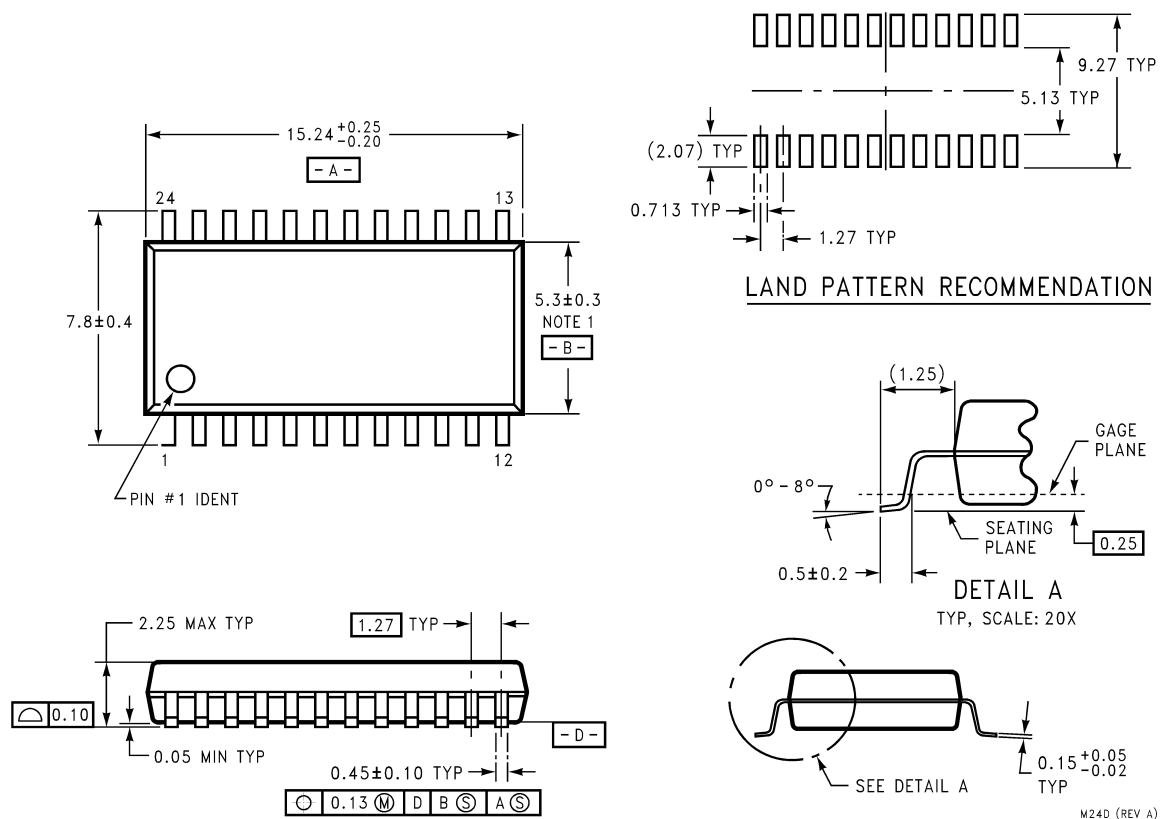

**FIGURE 8. 5.5 MHz Low Pass Filter to Eliminate Harmonics at the Signal Input.**
**Input test signal contains harmonic distortion that interferes with the measurement of dynamic signal to noise ratio.** Harmonic and other interfering signals can be removed by inserting a filter at the signal input. Suitable filters are shown in Figure 8 and Figure 9. The circuit of Figure 8 has cutoff of about 5.5 MHz and is suitable for input frequencies of 1 MHz to 5 MHz. The circuit of Figure 9 has a cutoff of about 11 MHz and is suitable for input frequencies of 5 MHz to 10 MHz. These filters should be driven by a generator of 75 Ohm source impedance and terminated with a 75 ohm resistor.